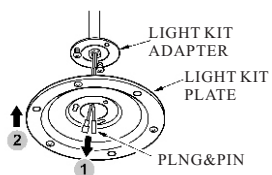

FIG. 13
2. Gently pull the wire through light kit plate. Have the key hole over the loosened the screws. Turn the light kit plate until it get the end of narrow end. Then, tighten the previously removed and loosened screws. (see Fig. 13)